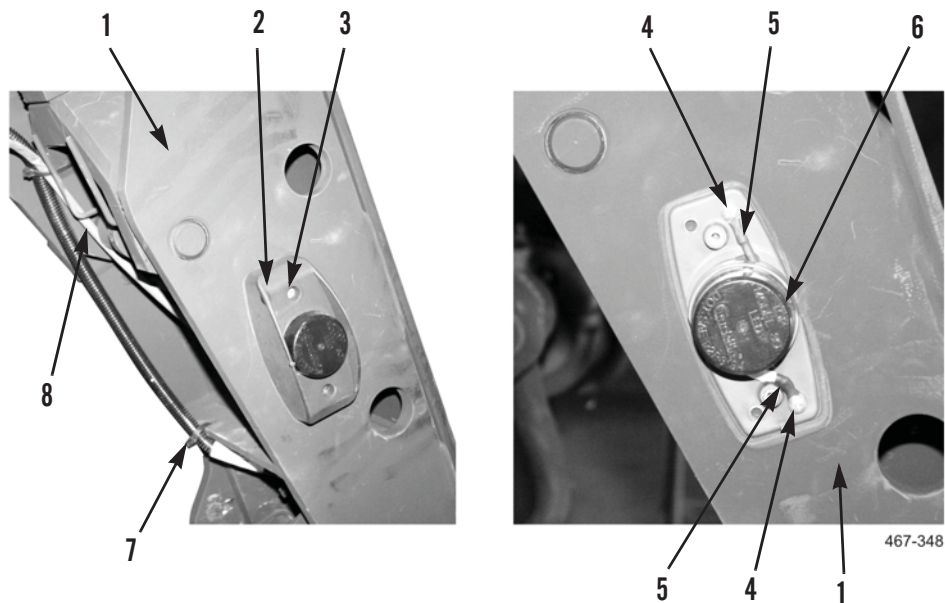

Figure 17. Slider Bed Light Installation.
2. Feed wiring harness (Figure 17, Item 8) through slider bed (Figure 17, Item 1) and install light (Figure 17, Item 6), two ground wires (Figure 17, Item 5), and screws (Figure 17, Item 4) on slider bed.
3. Install light cover (Figure 17, Item 2) and two screws (Figure 17, Item 3) on light (Figure 17, Item 6).
4. Install new tiedown straps (Figure 17, Item 7) as required.